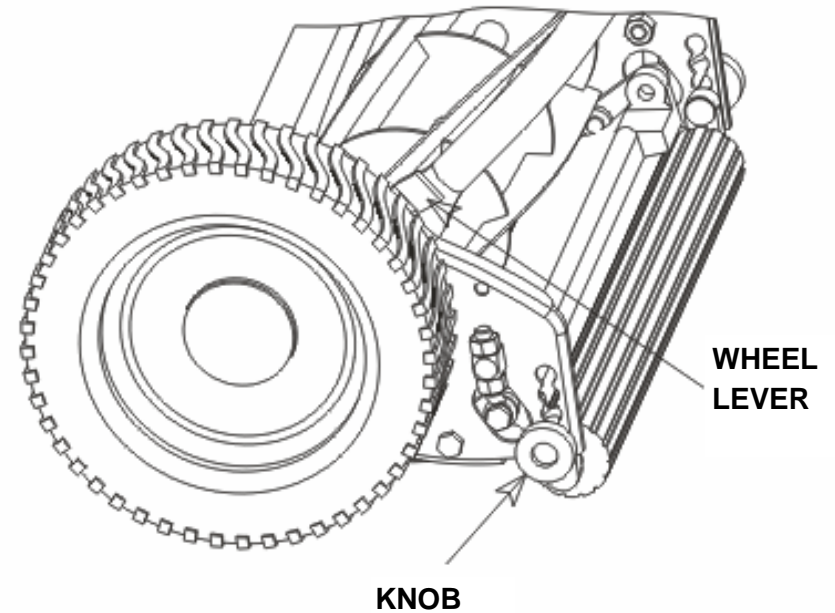

FIGURE 6
Both levers must be in the same relative position (Figure 6).
- To adjust wheel lever (Figure 6) use 8mm wrench to loosen bolts, set height, then tighten bolts.